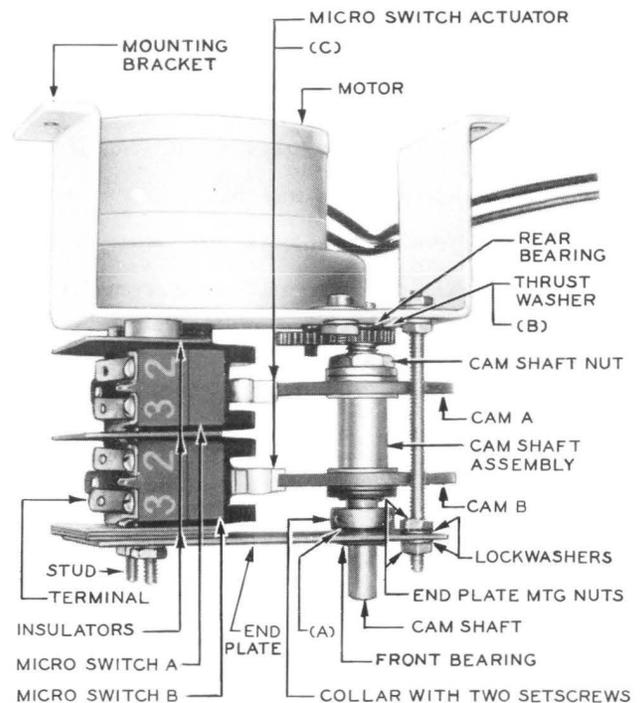

Fig. 1 - KS-14799 Timer
(1) Front Bearing: Fig. 1(A) - Apply to cam shaft between collar and end plate.
(2) Rear Bearing: Fig. 1(B) - Apply to thrust washer.
2.05 Cam Position: Fig. 1(C) - With the end play of the camshaft taken up in either direction, each micro switch actuator shall overlap its associated cam.